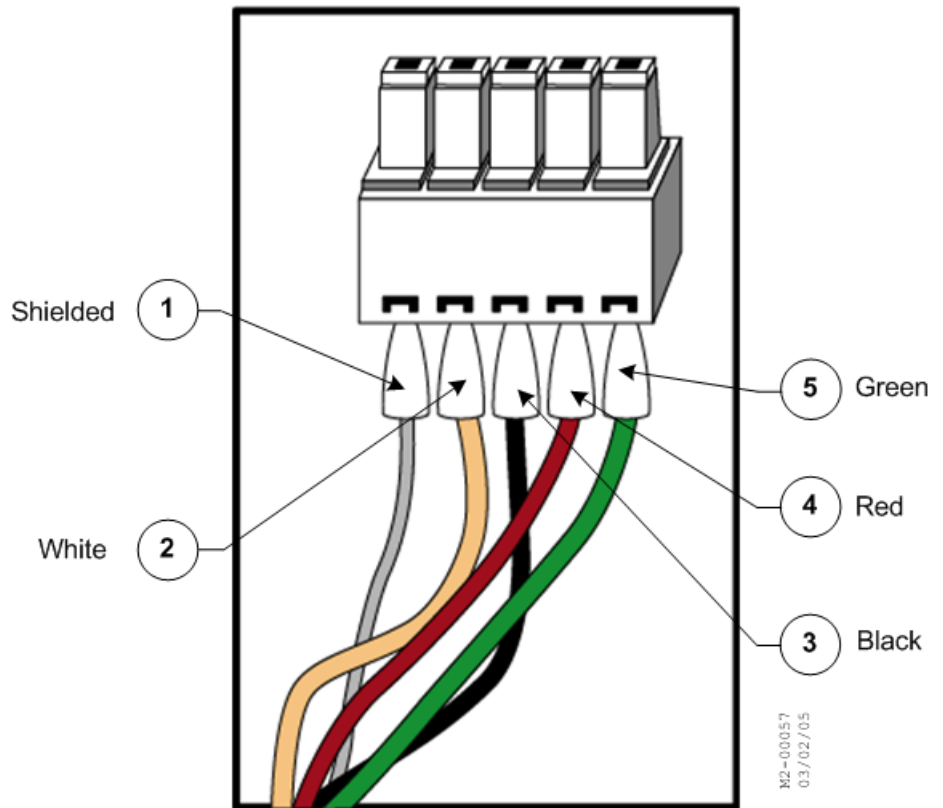

Figure 3-7: Wiring the Green Connector
1. Insert the wires into the green connector as listed below. (Terminals are ordered left to right.) See Figure 3-7.